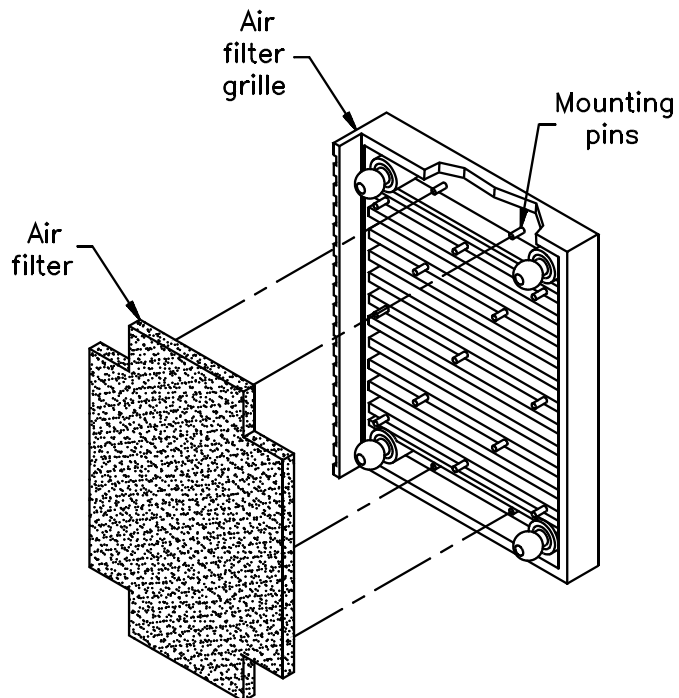

Figure 6-4 Replacing the air filter inside the air filter grill
2. Remove the air filter from inside of the air filter grille (see Figure 6-4).